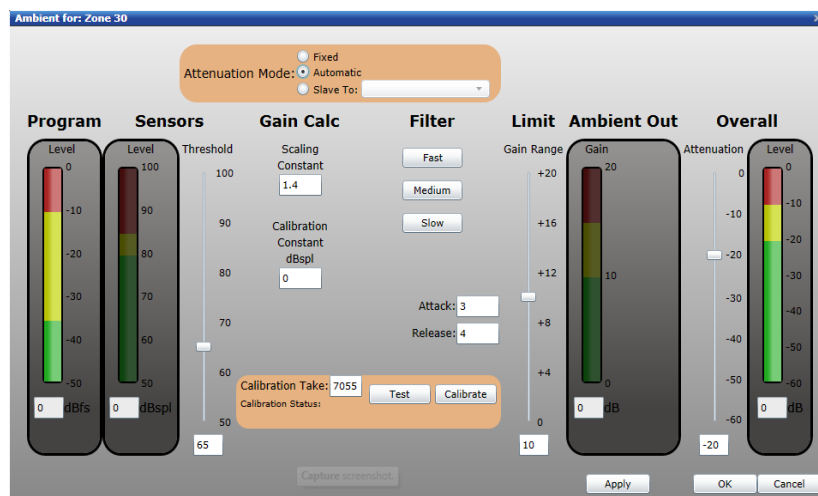

Figure 6-69: Ambient Analysis
Titan series amplifier frames are equipped with ambient noise compensation (Ambient Analysis) capabilities when paired with a noise sensor collector, such as a T9032NS. Ambient Analysis adjusts the output attenuation of a channel in response to ambient noise level measured in the area served by the channel. Anywhere from one (1) to four (4) ambient noise sensors can be assigned to each channel. Channels can also be slaved to other channels. Click the **Ambient** button for the channel you wish to configure to open a window such as that shown in Figure 6-69.
The **Scaling Constant** determines the amount of ambient noise level that will result in the output level to increase by 1 dB. A scaling constant of 1 will result in the output level increasing by 1 dB for each 1 dB increase in ambient sensor level. Figure 6-69 shows a scaling constant of 1.4. With this setting, a 1.4 dB increase in ambient sensor level will result in a 1 dB increase in output level up to the point where the **Limit** has been reached.
The limit sets the maximum amount of gain that can be applied through the ambient analysis compensation process. The amount of gain available is determined by the attenuator setting of the **Overall** attenuation slider. For example, if the channel out slider is set to  $-20\text{dB}$  as shown in Figure 6-69, then the maximum available setting for the Limit slider will be  $+20\text{dB}$ . Setting the Limit to  $+12\text{dB}$  will cause the output level to be increased by a maximum of  $12\text{dB}$  above the setting of the **Overall** attenuation slider. Thus, with very loud ambient noise levels the output level will be effectively set to  $-8\text{dB}$  and reduced to  $-20\text{dB}$  when the ambient noise level is very low or has dropped below the threshold. The ambient noise compensation will be continually adjusted within this range as long as the noise level remains above the threshold but below the amount required to drive the system to maximum level.